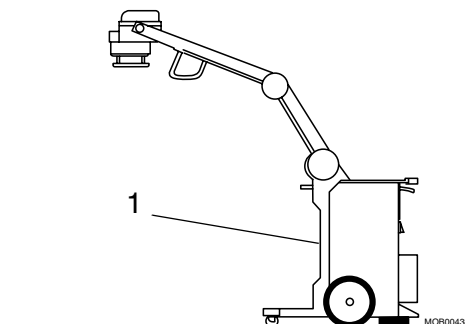

Fig. 5 Front cover
4. Remove the front cover (pos. 1 / Fig. 5).